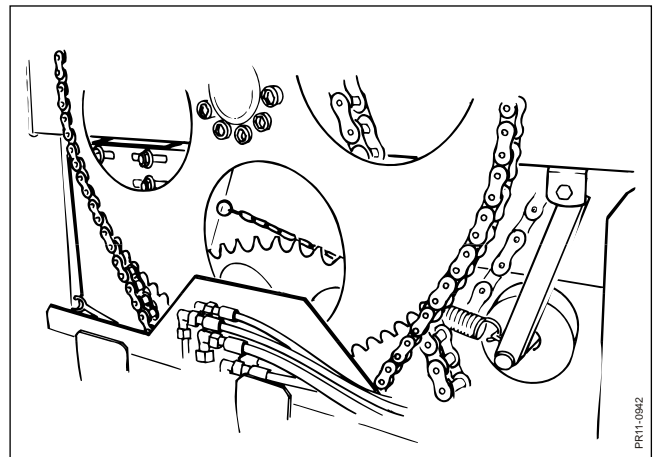

Fig. 9.4
- Fig. 9.4** **Tightening of 2" chain:** turnbuckle is tightened until the distance between the coils of the spring is 1,5 – 2 mm. Do not forget to tighten the 2 counternuts after adjustment of the turnbuckle.